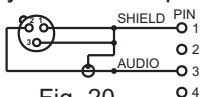

Fig. 20
3. Dynamic Microphone, Fig. 20: